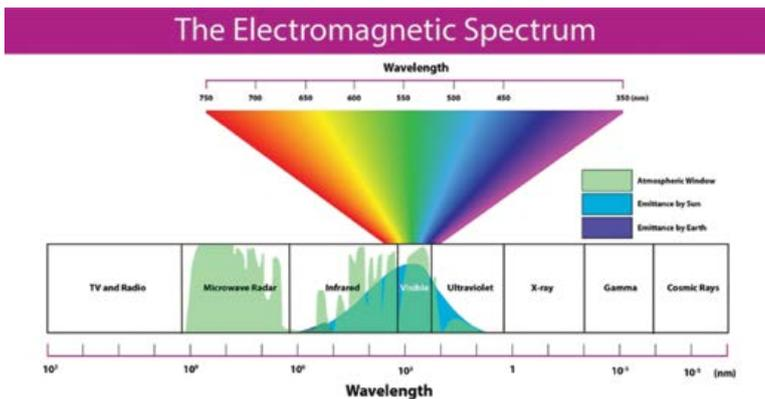

Figure 5: Graph depicting the colour spectrum.
- Understanding and utilising a much larger portion of the electromagnetic spectrum (EM) (figure 5). People generally concentrate on what the eye sees but there are many untapped possibilities by focusing on the misunderstood and under utilised portions of the EM spectrum. The Neutron wall thickness inspection system relies on these parts of the spectrum. Airport body scanners utilise similar technology. By using millimeter waves of low energy x-rays and 'back scatter' techniques, body scanners are able to see right through clothing and detect illegal and unusual non-tissue objects.
- Computing technology both in hardware and software has improved dramatically. The implementation of artificial intelligence (AI) is changing the way business is conducted. Based on the number crunching powers of today's computers and improved software and algorithmic capabilities, the company is able to greatly reduce its customers' burdens when it comes to setting up their machines, defect classification and traceability functions.